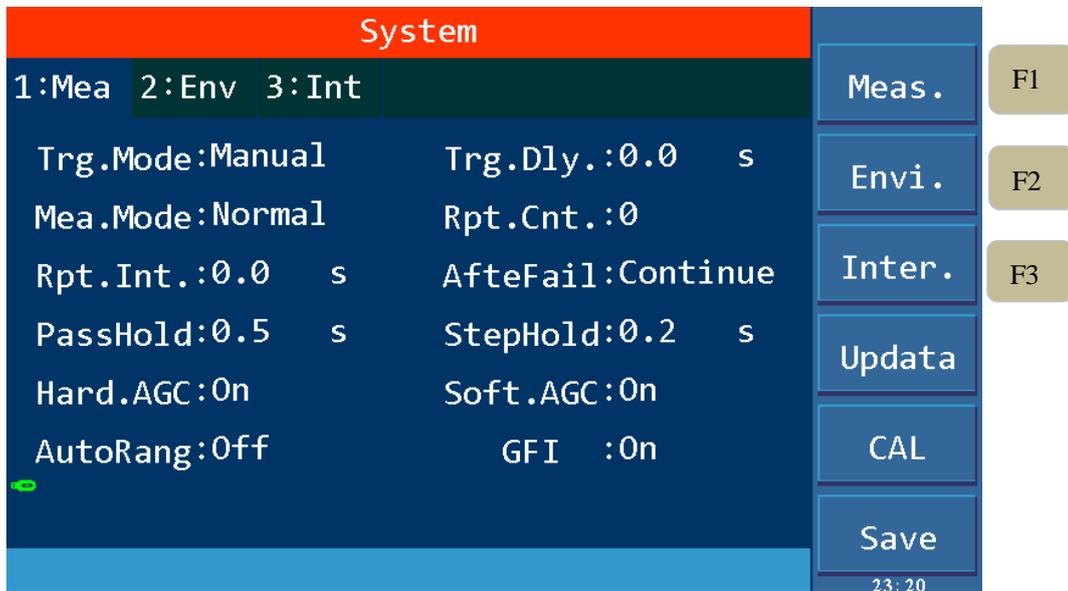

Figure 4-2 SYSTEM Test Parameter Settings
1. Press the [SYSTEM] key to enter the system setting interface shown in Figure 4-2.
Test related parameters setting in SYSTEM are shown in Figure 4-2:
1. Press [SYSTEM] to enter the system setting interface shown in Figure 4-2.